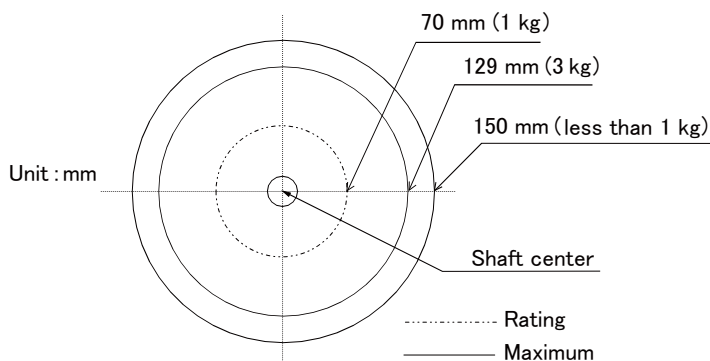
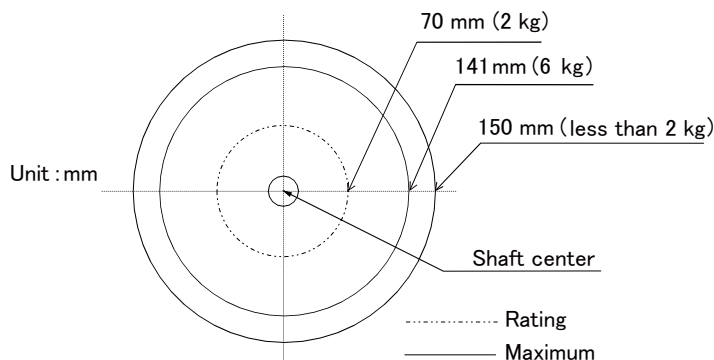

Fig.2-1: Position of the center of gravity for loads (for loads with comparatively small volume): RH-3CRH
Fig.2-2: Position of the center of gravity for loads (for loads with comparatively small volume): RH-6CRH
- (1) The tooling should have the value less or equal than the smaller of the allowable moment of inertia found in Page 10, "2.1.1 Basic specifications".
- (2) Fig. 2-1 and Fig. 2-2 shows the distribution dimensions for the center of gravity in the case where the volume of the load is relatively small. Use this figure as a reference when designing the tooling. Please use the robot in the allowable moment of inertia of maximum moment of inertia shown in Fig. 2-1 and Fig. 2-2.